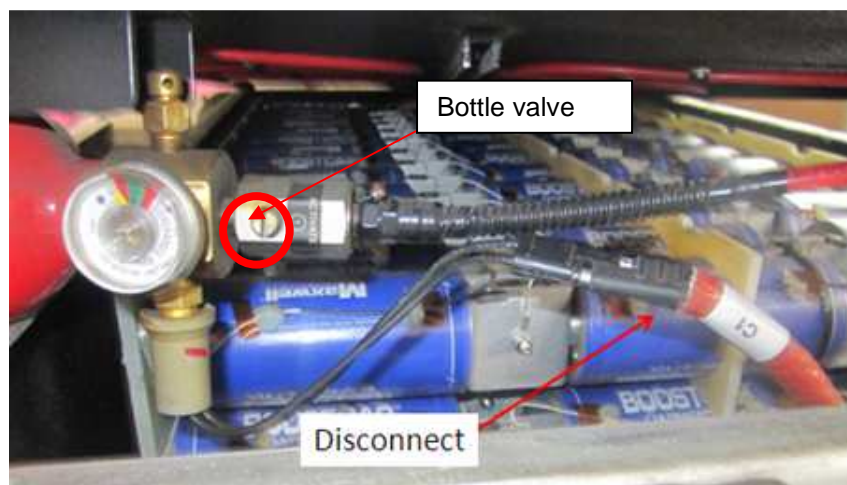

Fig 3 – Fire bottle harness
- c. Deactivate (refer to orientation sticker on bottle) the bottle valve using a flat head screw driver and disconnect the fire bottle harness connection before fully opening lid and setting aside. Fig 3